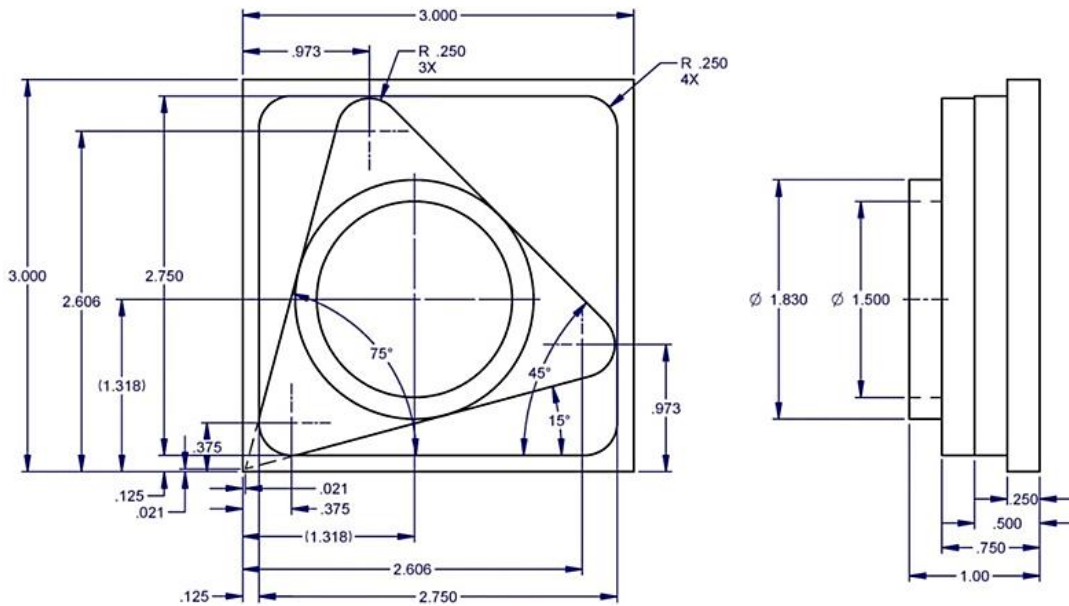

Figure 2.16
9. Mount a dial indicator in the quill and check the circles using figure 2.16 as a reference.